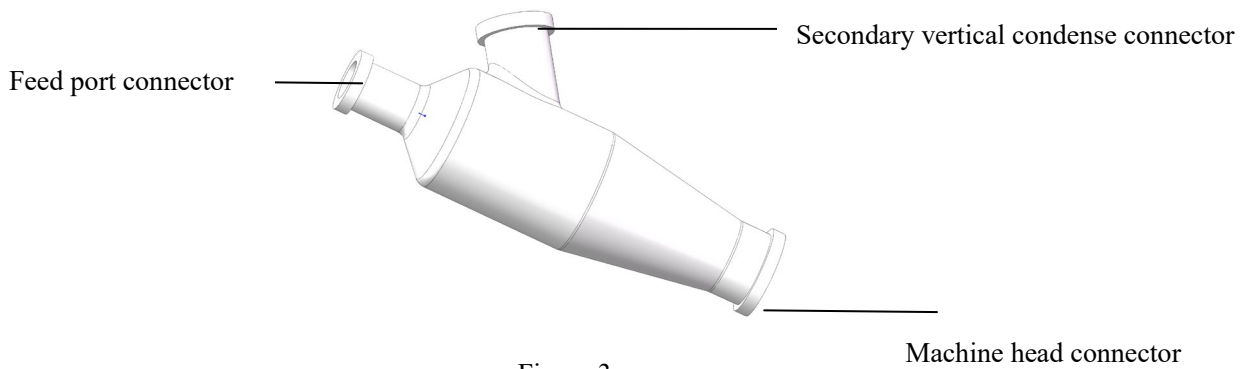

Figure 3
| (13) Replenishment knob                      | (14) Continuous feed port               | (15) 3 way flask (Figure 3)            |